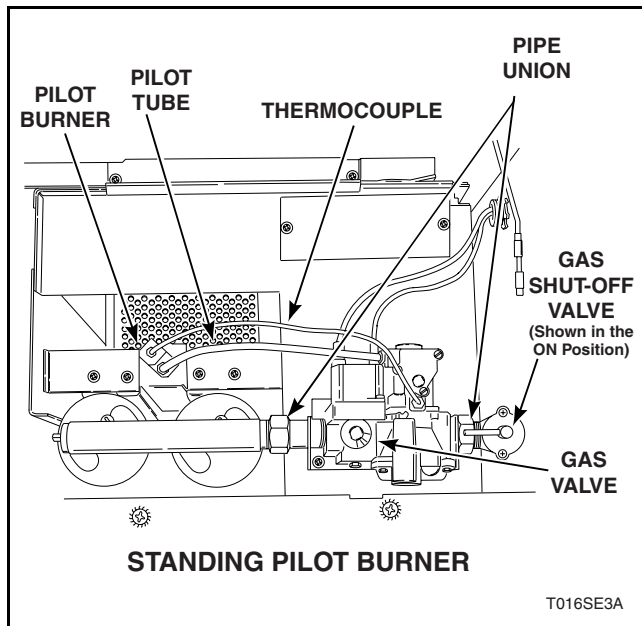

Figure 20
- Close gas shut-off valve. Refer to *Figure 20*.